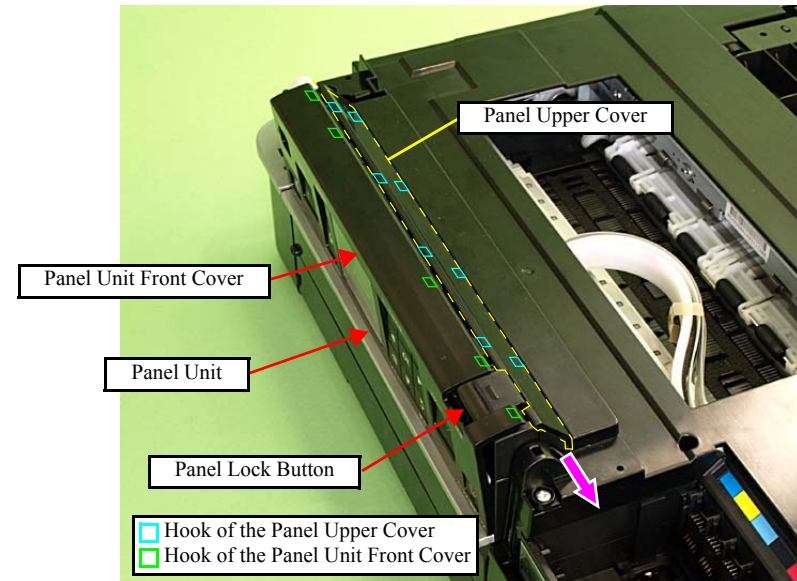

Figure 4-211. Removing the Upper Housing (1)
2. Release the hooks (x5) of the Panel Unit Front Cover. (See Fig. 4-211)